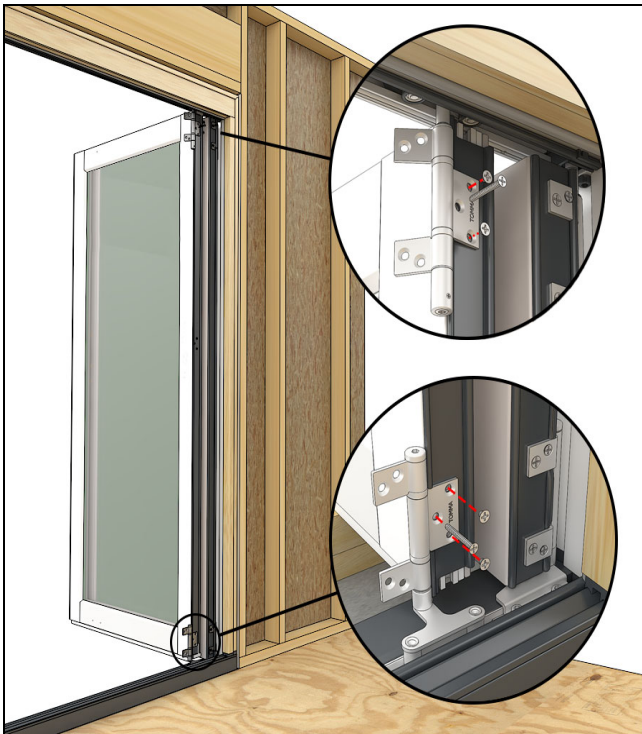

Figure 42
8. Fasten the panel from steps 6 and 7 to the appropriate carrier and guide hardware (Hardware #3, #4, or #5) in the track. Adjust the carrier hardware vertically as needed to align the holes. See Figure 42 and Figure 43.